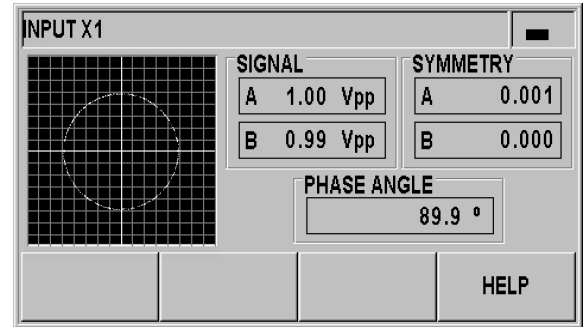

Fig. II.40 Encoder test: 1 Vpp interface
- ▶ As the encoder is moved, you will see the signals of the A and B channels as Lissajous figure (see Fig. II.40), as well as the amplitude, symmetry and phase offset values.